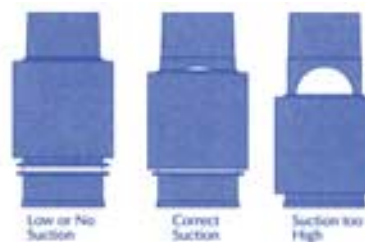

Figure 5: Suction Regulator Sleeve positions.
d. To determine whether or not you have the suction correctly adjusted, look at the Regulator Valve and make sure that the Yellow Band is half covered by the edge of the sleeve (See Figure 5). Operation within the Yellow Band indicates the best suction adjustment for good cleaner performance.